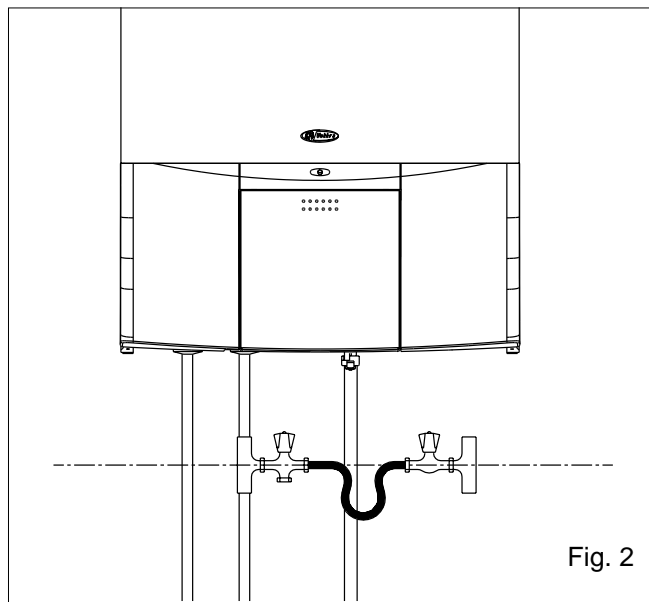

Fig. 2
3.1 HOW TO TOP-UP THE SYSTEM PRESSURE (see fig. 2)